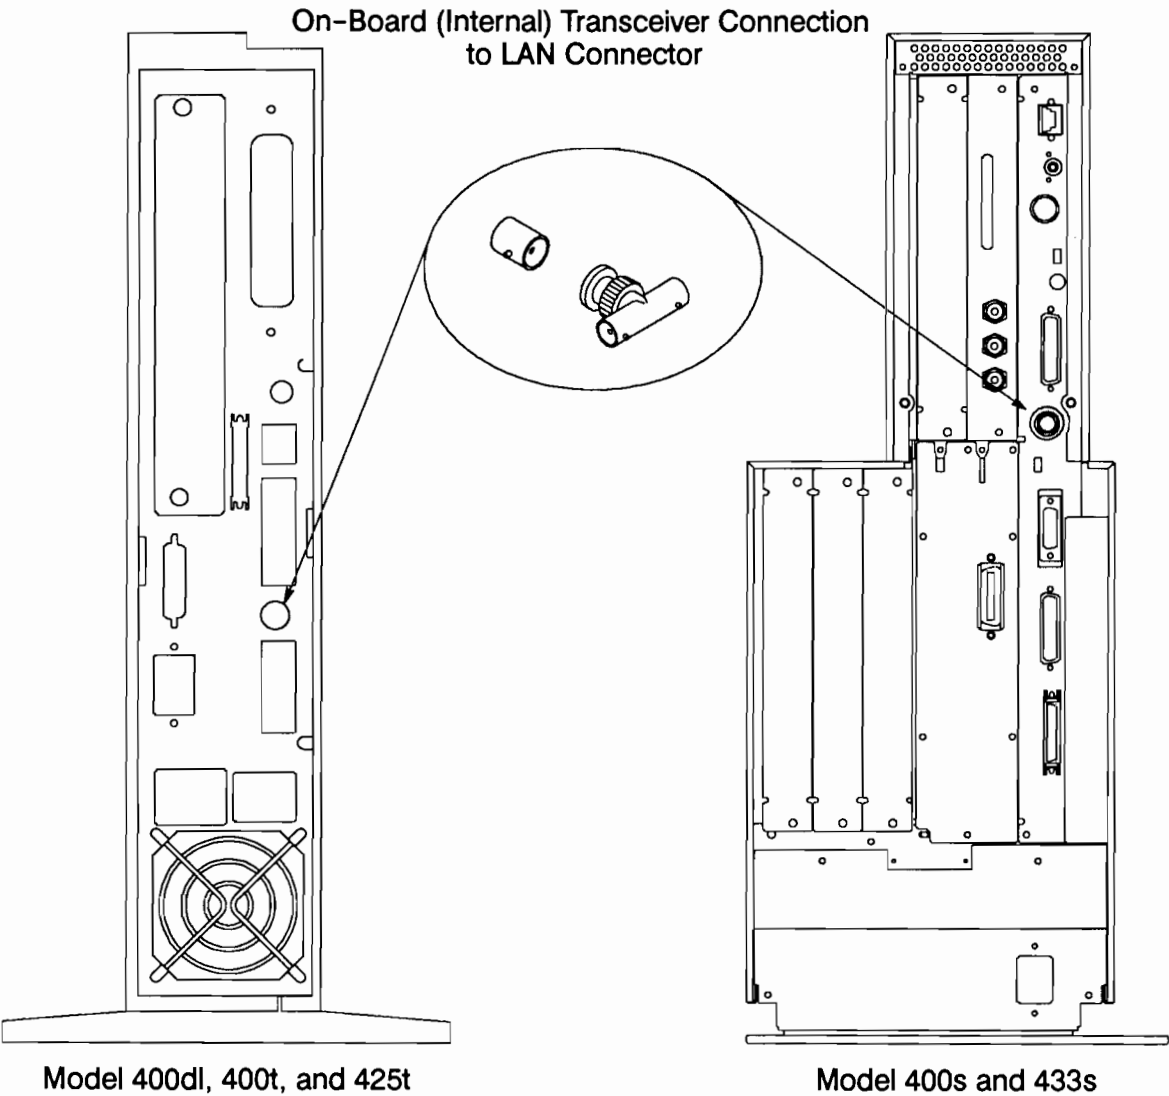

Figure 7-9. Connecting the 802.3 Cable to the LAN Connector
- 1.** To connect the system to an 802.3 network by using an on-board transceiver, you'll need to connect the network cable to the T-connector that attaches to the system unit's EtherLAN BNC connector. Push the T-connector onto the system unit's BNC connector as shown in Figure 7-9. Turn the sleeve clockwise one quarter turn until it stops.